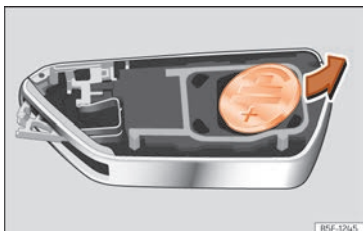

Fig. 70 Vehicle key: removing the battery.
- Remove the battery from the compartment with a suitable fine object >>> Fig. 70.
- Insert the new battery and press it into the battery compartment >>> ③.